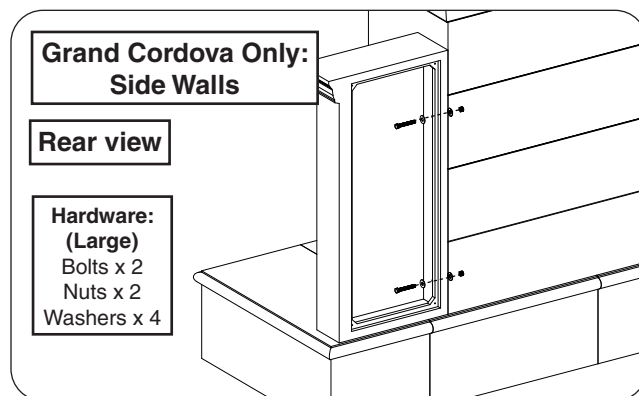

Fig. 24-1 Assemble side-wall (skip if n/a)
1. Place one main side-wall piece beside the fireplace body as shown. Carefully align the pilot holes, and repeat the hardware installation process. See Fig. 24-1.